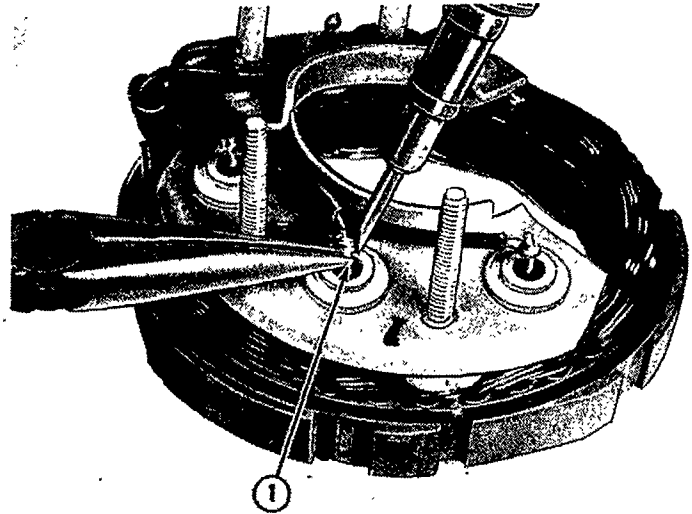

Figure 42
1. Separate the diode assemblies from the stator leads, as shown in Figure 42. Use pliers as a heat dam between the diodes and solder point to protect the diodes from heat damage. Avoid bending or twisting the diode terminal.
IMPORTANT: Be sure to use a heat dam to protect the diodes when resoldering them to the stator. See Figure 42.